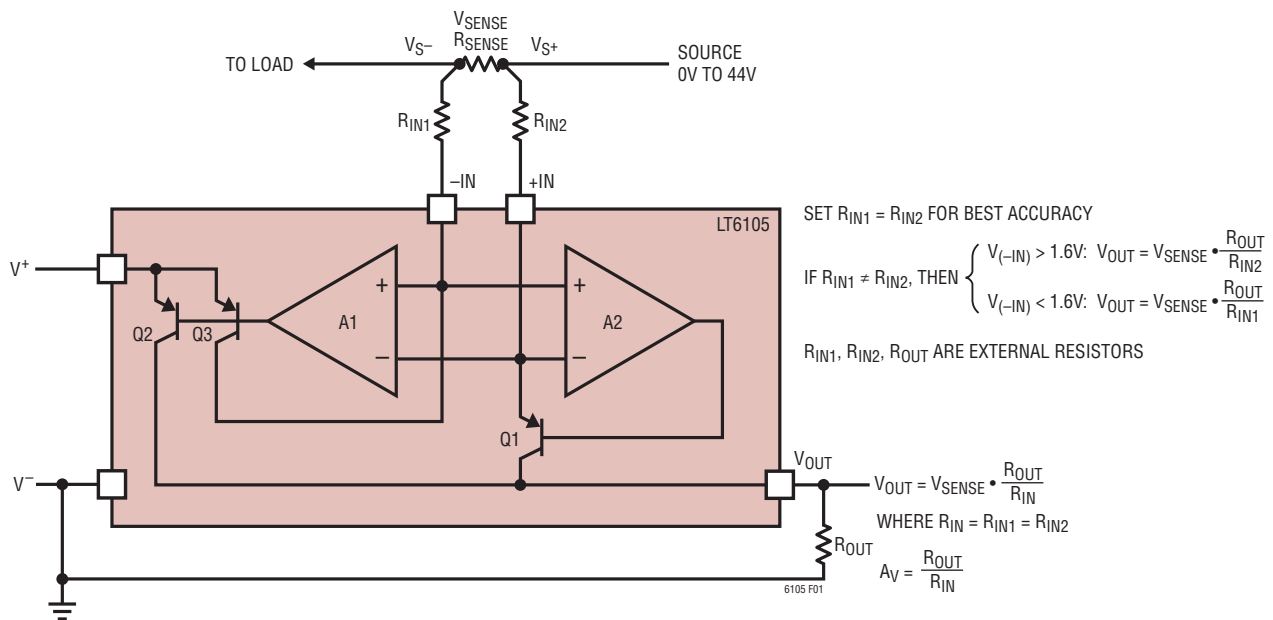

Figure 1. Simplified Block Diagram
**+IN (Pin 6/Pin 8):** Positive Sense Input Terminal. Connecting a source to  $V_{S^+}$  and a load to  $V_{S^-}$  will allow the LT6105 to monitor the current through  $R_{SENSE}$ , refer to Figure 1. Connect +IN to an external gain-setting resistor  $R_{IN2}$  to set the gain. +IN remains functional for voltages up to 44V, referred to  $V^-$ .
The LT6105 extended input range current sense amplifier (see Figure 1) provides accurate unidirectional monitoring of current through a user-selected sense resistor. The LT6105 is fully specified over a  $-0.3\text{V}$  to  $44\text{V}$  input common mode range. A high PSRR  $V^+$  supply ( $2.85\text{V}$  to  $36\text{V}$ ) powers the current sense amplifier. The input sense voltage is level shifted from the sensed power supply to the ground reference and amplified by a user-selected gain to the output. The output voltage is directly proportional to the current flowing through the sense resistor.
### THEORY OF OPERATION (Refer to Figure 1)
The crossover voltage, the voltage where the  $g_m$  of one input stage is transferred to the other, occurs at 1.6V above  $V^-$ . Near this region, one input stage is shutting off while the other is turning on. Increases in temperature will cause the crossover voltage to decrease. For input operation between 1.6V and 44V, the common base PNPs are active (Q2, Q3 of Figure 1). The typical current through each input at  $V_{SENSE} = 0V$  is 15 $\mu A$ . The input offset voltage is 300 $\mu V$  maximum at room temperature. For input operation between 1.6V to 0V, the other PNP is active. The current out of the inputs at  $V_{SENSE} = 0V$  is 100nA. The input offset voltage is untrimmed and is typically 300 $\mu V$ .
The LT6105 is designed to exhibit fast response to inputs for the purpose of circuit protection or signal transmission. This response time will be affected by the external circuit in two ways—delay and speed. If the output current is very low and an input transient occurs, there may be an increased delay before the output voltage begins changing. This can be improved by increasing the minimum output current, either by increasing  $R_{SENSE}$  or decreasing  $R_{IN}$ . The effect of increased output current is illustrated in the step response curves in the Typical Performance Characteristics section of this data sheet. Note that the curves are labeled with respect to the initial output currents. The speed is also affected by the external circuit. In this case, if the input changes very quickly, the internal amplifier will slew the base of the internal output PNP (Figure 1) in order to maintain the internal loop. This results in current flowing through  $R_{IN}$  and the internal PNP. This current slew rate will be determined by the amplifier and PNP characteristics as well as the input resistor,  $R_{IN}$ . See the Slew Rate vs  $R_{IN}$  curve in the Typical Performance Characteristics section. Using a smaller  $R_{IN}$  will allow the output current to increase more quickly, decreasing the response time at the output. This will also have the effect of increasing the maximum output current.